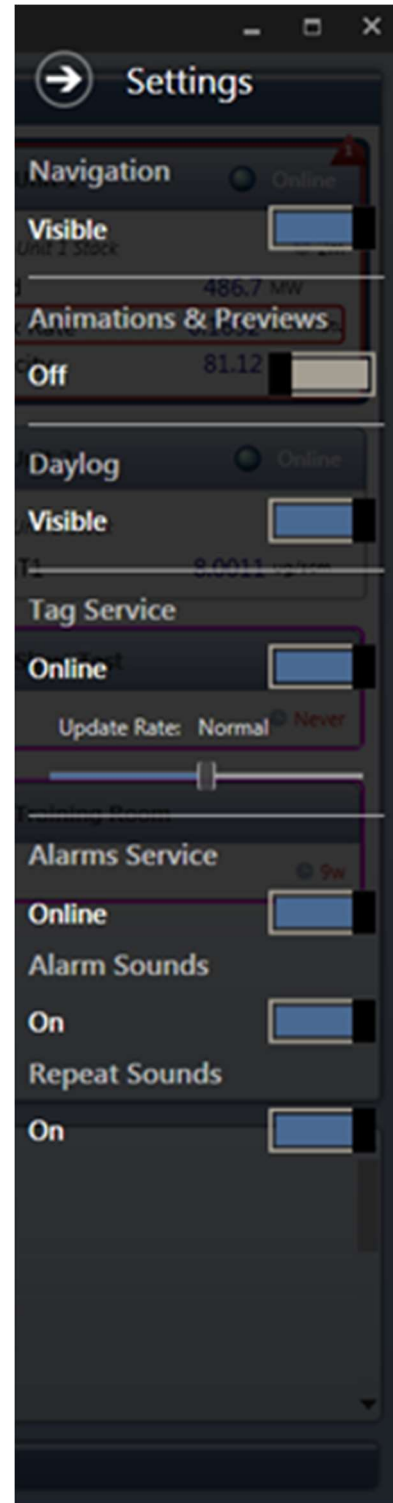

Figure 4-5 Settings Pane
3. The right side pane, as seen in **FIGURE 4-5**, will contain the available settings for the *SpectraView® Prism Client*. In this pane you can change settings for whether the navigation tabs are visible, whether animations and previews are enabled, the visibility of the Daylog; whether the Tag Service is connected, and its update rate; and control the settings of the Alarm Service.